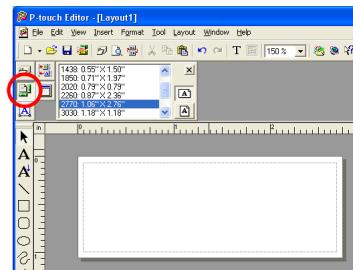

figure 1
- ① Display the Page Properties.
- ② From the “Stamp Size” list, select the size of stamp to be made (see figure 1).